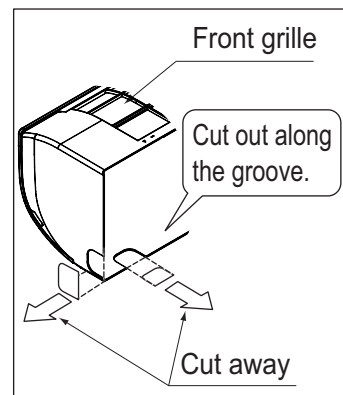

Fig. 4
- If using the attachment screws for the installation panel (2), attach using at least 4 screws on either side (for a total of 8 screws (15-32 class), 9 screws (40-63 class)) of the recommended installation cleat position on the included paper pattern for installation (3).
(3) If using the left, bottom-left, right, or bottom-right positions for the piping, cut out the through-hole for the piping in the front grille. (Refer to Fig. 4)